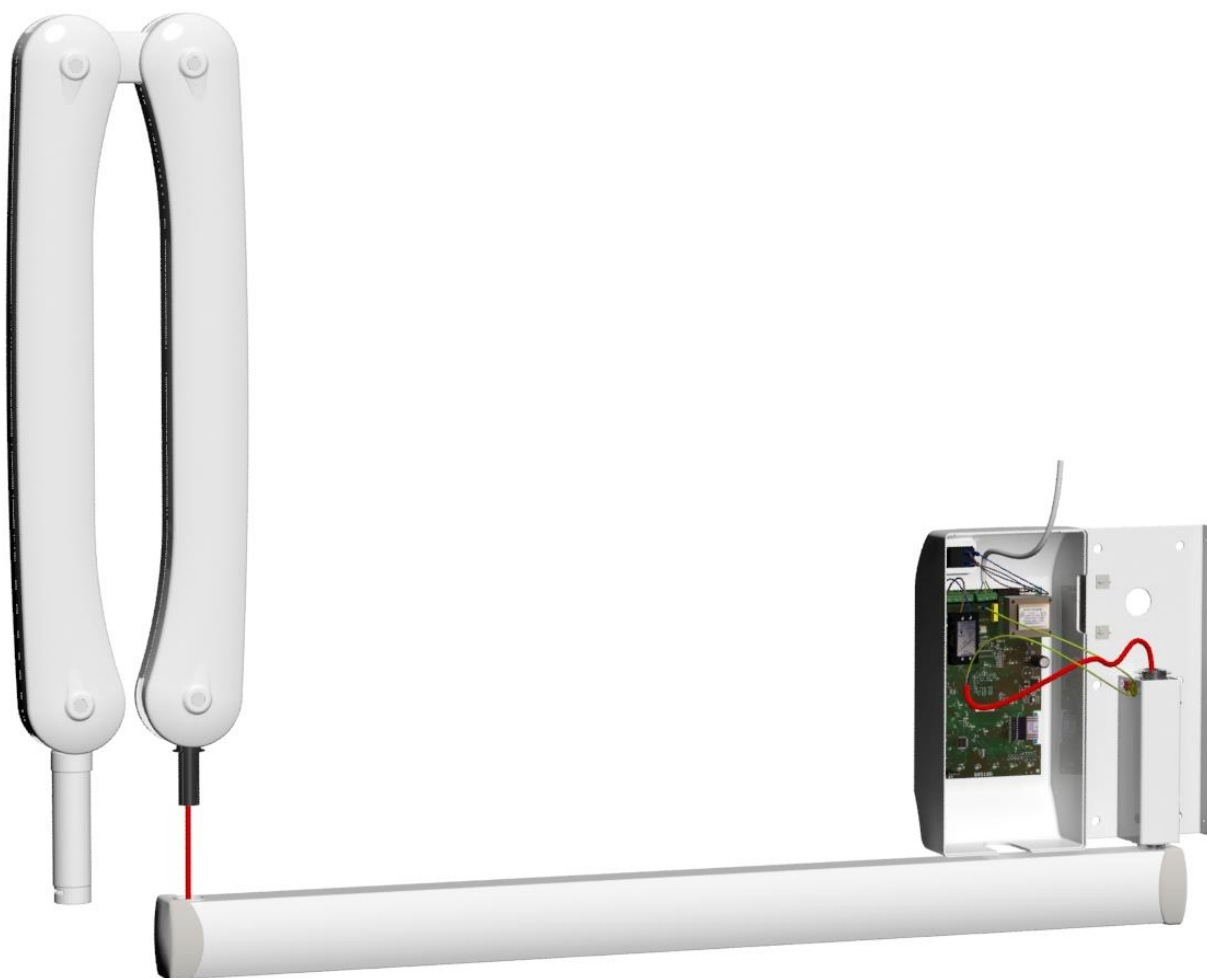

fig. 5
- ✓ Enter the double pantograph arm **(C)** in the extension **(B)** and route the cable as shown in Figure 5. Close the extension repositioning the lower strip cover strips. Connect the cable from the double pantograph arm to output of **THERMOSWITCH** and the ground wire IN in its slot.